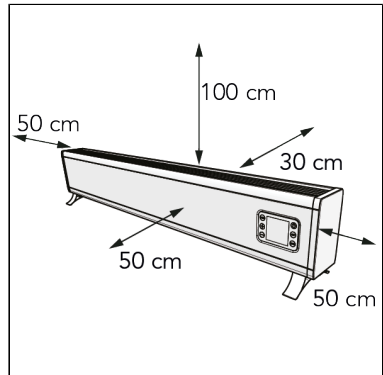

Figure 24.
5. Place the device with a minimum clearance distance (Figure 24) of: